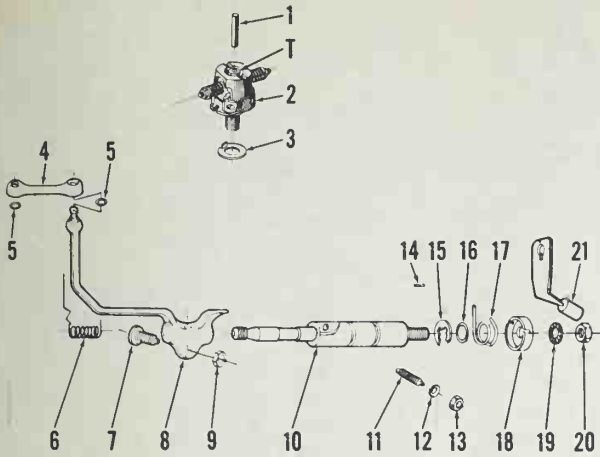
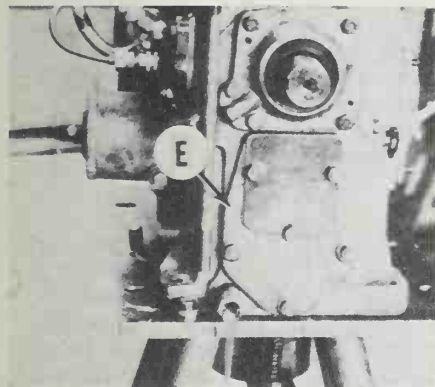
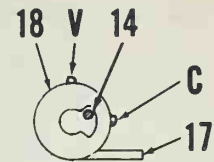

Fig. KR1-13—Exploded view of governor mechanism.
Fig. KR1-14—Remove end cover (E) for access to governor and oil pump.
Fig. KR1-15—Position short end of spring (17) in slot (V) of spring retainer on variable speed engines or in slot (C) on constant speed engines.
move breather adjacent to pump, then reach through breather opening in crankcase and disconnect governor link (4—Fig. KR1-13) from pump. Disconnect fuel lines from pump and immediately cap all openings to prevent contamination. Remove pump being careful not to lose timing shims.
R&R AND OVERHAUL. To remove governor, remove breather on top of crankcase then reach through opening and disconnect governor link (4—Fig. KR1-13) from injection pump. Detach speed control lever (21), spring retainer (18) and spring (17) from shaft (10). Remove end cover (E—Fig. KR1-14). Unscrew and remove stud (11—Fig. KR1-13) from shaft. Detach "E" ring (15) and withdraw governor shaft (10) from side of crankcase while removing governor fork (8) assembly through end of crankcase. The governor flyweight assembly (2) may be removed by turning stud (T) after removing pin (1).
stall governor components. Long end of governor spring (6) must engage notch in crankcase while short end of spring is against back side of governor arm (8) so spring tension will force fork arm towards end of crankcase. Refer to Fig. KR1-15 when installing spring (17—Fig. KR1-13) and spring retainer (18). Short end of spring (17) on constant speed engines should engage slot (C—Fig. KR1-15) of spring retainer (18) while short spring end on variable speed engines should engage slot (V). Long end of spring on all engines must engage lug on side of crankcase so lever (21—Fig. KR1-13) is tensioned upwards. After governor installation refer to ENGINE SPEED ADJUSTMENT section.
R&R AND OVERHAUL. To remove oil pump, remove end cover (E—Fig. KR1-14), then unscrew three Allen screws securing oil pump and remove oil pump. If oil pump is difficult to remove due to binding or a close fit, it will be necessary to remove crankshaft so pump may be tapped loose from inside crankcase.